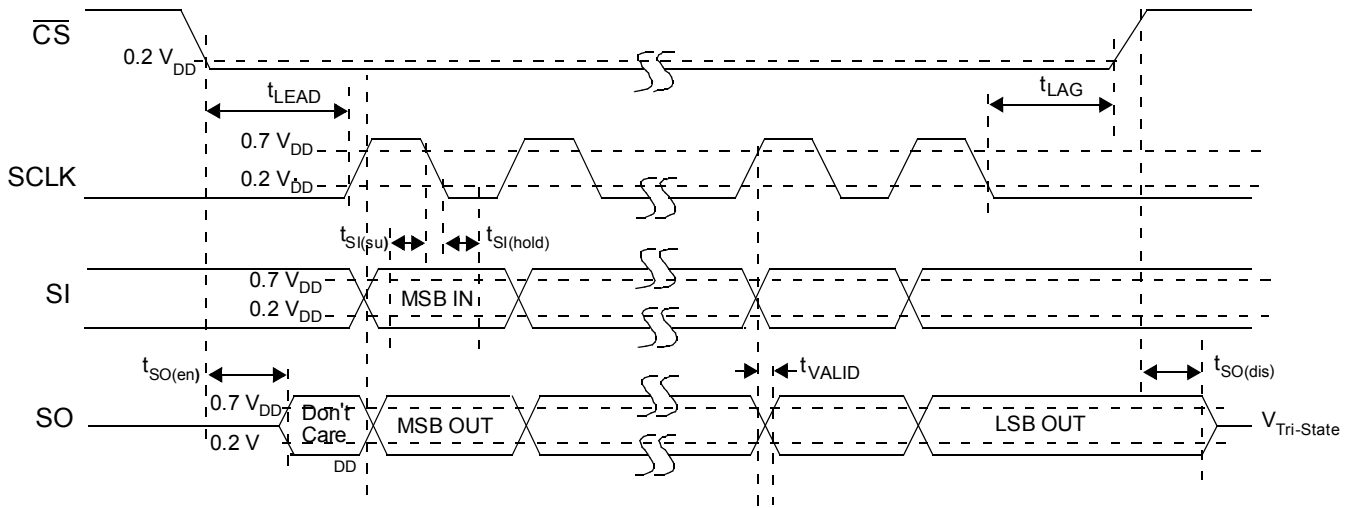

Figure 2. SPI Timing Characteristics
**Serial Input (SI) Pin**
The Serial Input (SI) pin is used to enter one of seven serial instructions into the 33999. SI SPI bits are latched into the Input Shift register on each falling edge of SCLK. The Shift register is full after 24 bits of information are entered. The 33999 operates on the command word on the rising edge of  $\overline{CS}$ . To preserve data integrity, exercise care to not transition SI as the SCLK transitions from high-to-low state (see Figure 2, page 8).
**Serial Output (SO) Pin**